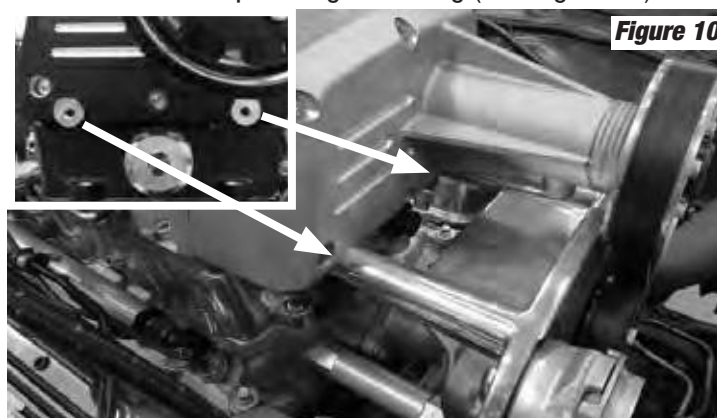

Figure 10
12. Using two (2) 5/16-18 x 3.5" SHCS bolts, install the FEAD bracket onto the supercharger housing (See Figure 10).